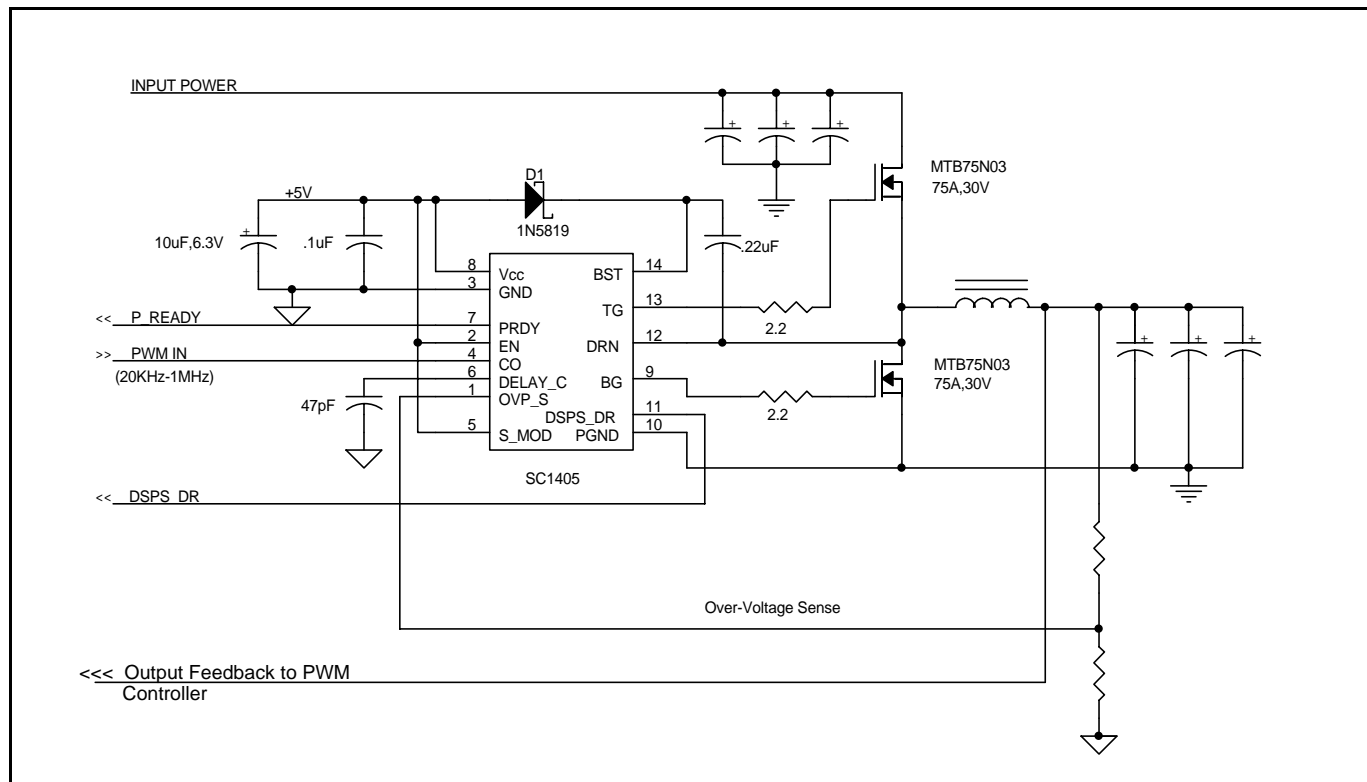

Figure 1.
(1) Specification refers to application circuit in Figure 1.